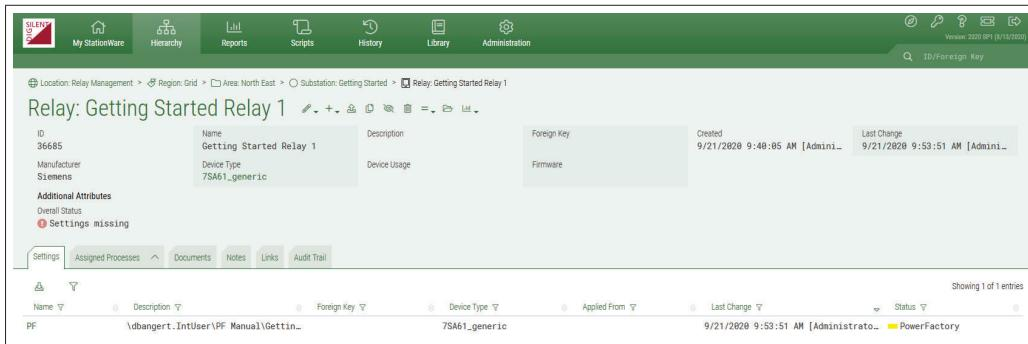

Figure 24.16.15: Device detail page
- Navigate to the relay detail view of the *Getting Started Relay 1* relay (see Fig. 24.16.15)